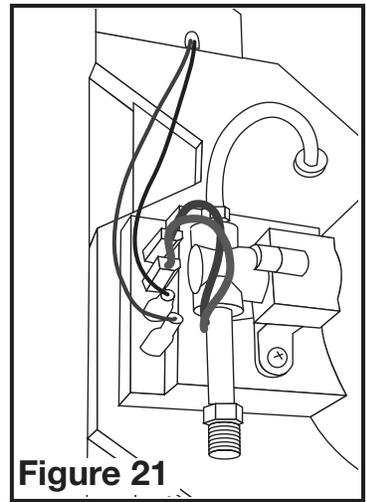

Figure 21
1. Locate the humidifier terminal panel on the side of the humidifier cabinet, behind the bypass tube. Connect the two red wires from the Digital Humidistat Top Console to the two terminals marked "24 VAC IN" (Figure 21). It does not matter which wire is connected to which terminal.